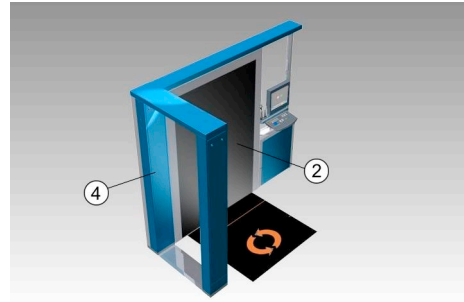

Fig. 5: Left-hand version of the eqo system
Two different variants of eqo's local station exist, a left-hand and a right-hand version. The variants differ in the position of the flat scanning panel ② which can be attached on either side of to the power supply pillar ④. Fig. 4 shows the right-hand version of the eqo, Fig. 5 the left-hand version. The right-hand version is defined as the configuration where the flat scanning panel is on the right-hand side of the person who will be scanned as they enter the system through the arch, and vice-versa for the left hand version.